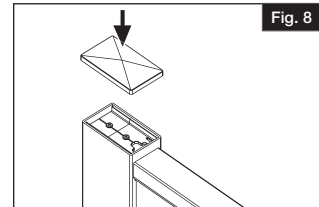

Fig. 8
- 6.** Install upright caps onto the top of each upright with remaining vinyl cement (Fig. 8).